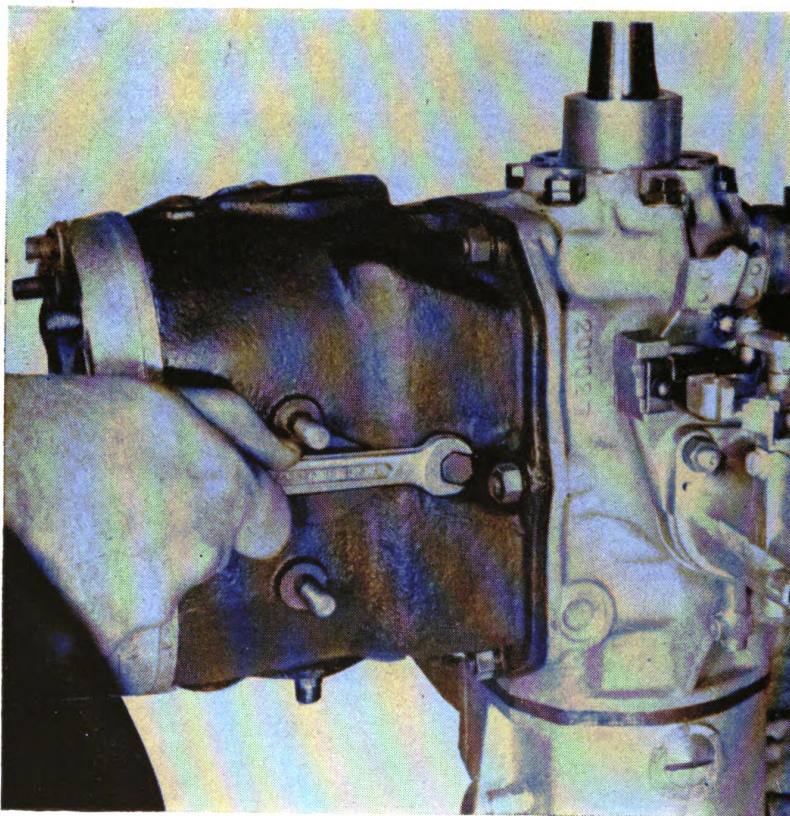

Figure 56. Removing muffler.
(12) Remove gear housing and upper driveshaft by removing two stud nuts at water-pump housing.
(13) Remove muffler by removing six nuts and washers in rear of cylinders, and two bolts on front side of motor at center of cylinders close to crankcase. (See fig. 56.) Do not attempt to remove muffler before these bolts are located and removed. Check muffler for cracks or breaks. Check drain hole in muffler; this must be kept open to permit drainage when motor is tilted into boat.